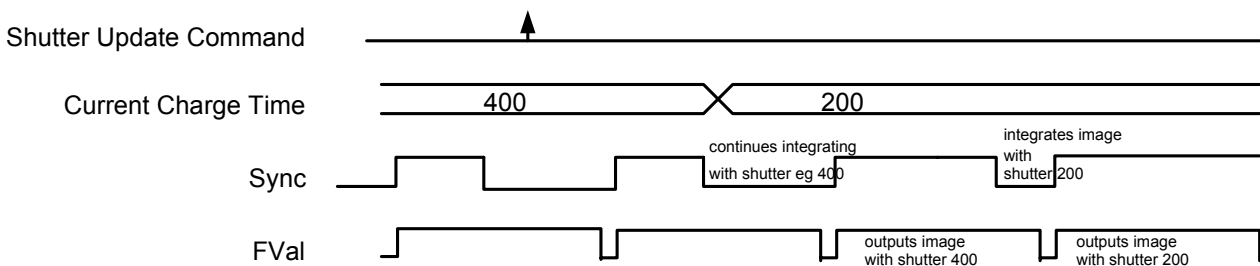

Figure 80: Former standard timing
- The delay from shutter update until the change takes place: up to 3 frames. Figure 80: Former standard timing on page 135 demonstrates this behavior. It shows that the camera receives a shutter update command while the sensor is currently integrating (Sync is low) with shutter setting 400. The camera continues to integrate and this image is output with the next FVal. The shutter change command becomes effective with the next falling edge of sync and finally the image taken with shutter 200 is output with a considerable delay.